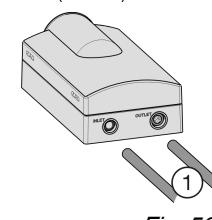

Fig. 56
- On the thin hose, measure the insertion depth (E) of 21/32" (17 mm) and mark it.
- On the thick hose, measure the insertion depth (E) of 25/32" (20 mm) and mark it.
- Insert the hoses Fig. 56 (1) all the way into the water filter module (i.e., up to the point of resistance).